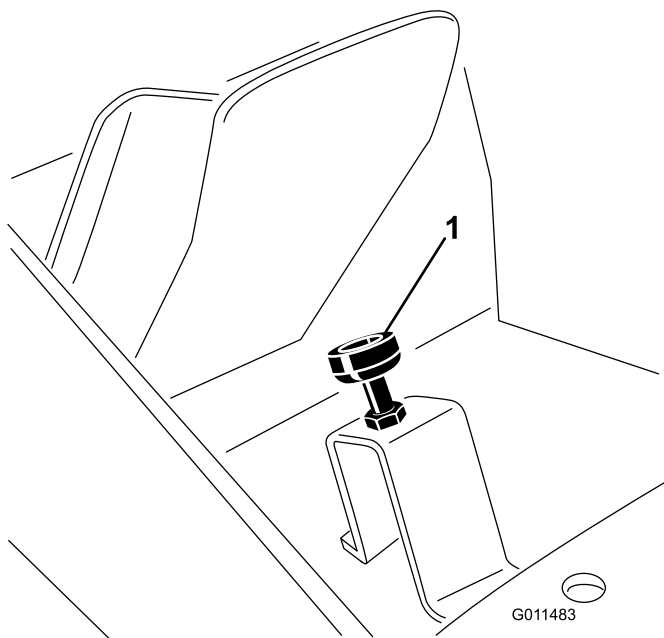

Figure 73
- Depress the traction pedal until it is at full stroke (Figure 73). The jam nuts may have to be loosened and the stop lowered to attain full stroke.
3. Release the traction pedal and adjust the stop another half to full turn so that the pedal contacts the stop just before full stroke is attained, then, tighten the jam nuts (Figure 73).